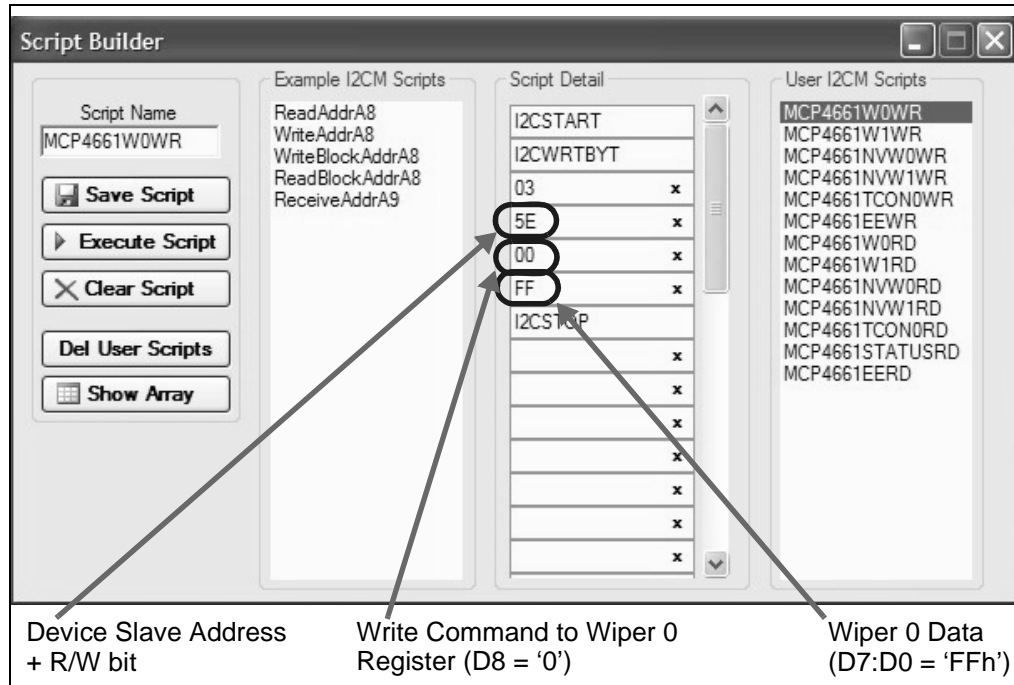

FIGURE 2-15: MCP46XX Write Wiper 0 Script File - Wiper Value = 0FFh.
13. Double click on the “MCP4661W0WR” script in the Example I2CM Scripts column. This loads the Script Detail column (see Figure 2-13). Modify the fourth byte to FF (see Figure 2-15).
17. Double click on the “MCP4661W0WR” script in the Example I2CM Scripts column. This loads the Script Detail column (see Figure 2-13). Modify the fourth byte to 3F (see Figure 2-15).